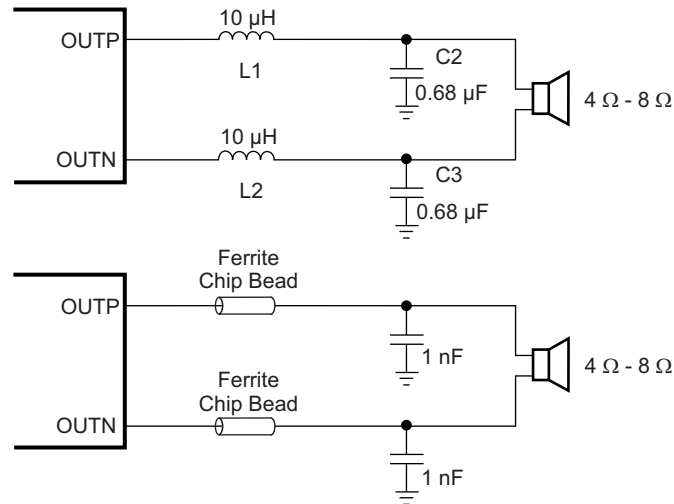

图 35. TPA31xxD2 Output Filters
- **Output filter** — The ferrite EMI filter (see 图 35) should be placed as close to the output terminals as possible for the best EMI performance. The LC filter should be placed close to the outputs. The capacitors used in both the ferrite and LC filters should be grounded.